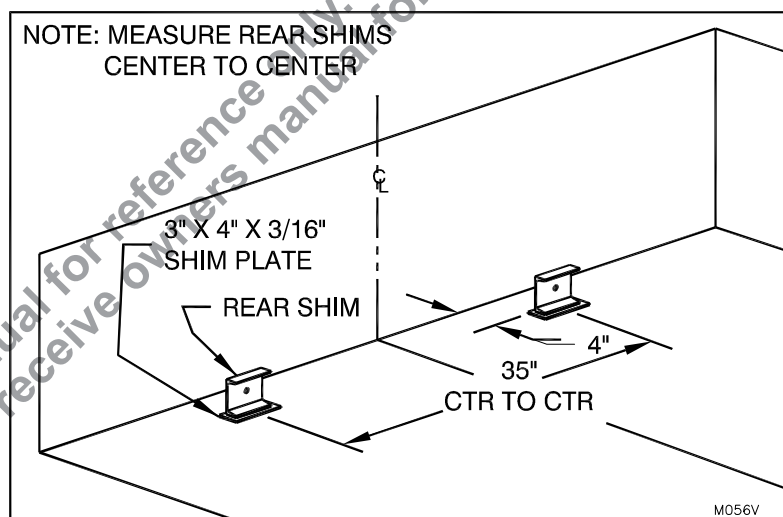

Figure 19: Rear Shim Location(4" High Rear Shim Shown)
3. Place the two rear shims with welded-on shim plate at the rear of the pit, 35" center to center and 4" from the rear pit wall. ("Figure 19: Rear Shim Location(4" High Rear Shim Shown)" on page 16)